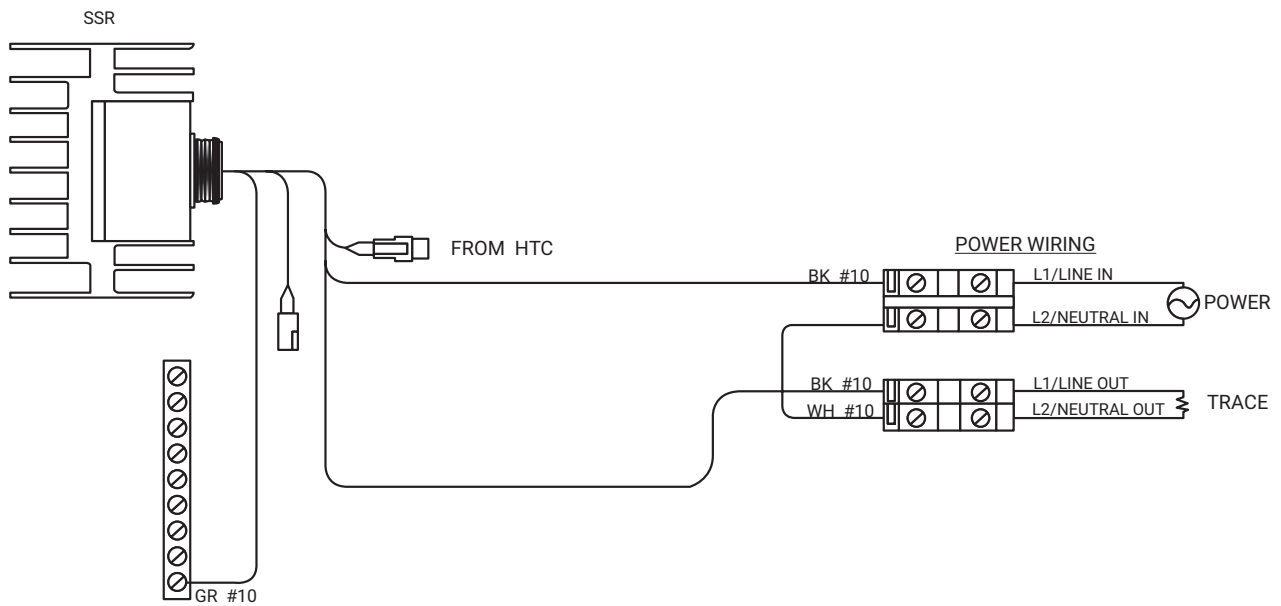

Figure 1
- Wire the switch according to Figure 1 at the end of this document. The #10 green wire is connected to the ground bar on the enclosure backplane. Feed one of the #10 black wires through the top tube of the switch interface (SIS) labeled LINE, cut and strip to length, and then wire into the power terminals. Wire the other #10 black wire to the power terminals (do not feed through the switch interface). Feed the separate piece of the #10 white wire through one of the other tubes in the switch interface and connect one end to power terminal. Cut and strip to length the other end and connect to power terminal.
- The three SSR assembly application follows the same instructions as for the two SSR application, with the addition of one more SSR assembly. After the first two SSR's are wired (as per Figure 1), add the third one the same way. Connect the #10 ground wire of the last SSR to the grounding bar on the enclosure backplane. Feed one of the #10 black wires through the third tube of the switch interface. Cut and strip to length, and connect it to the power terminals. Wire the other #10 black to the power terminals.